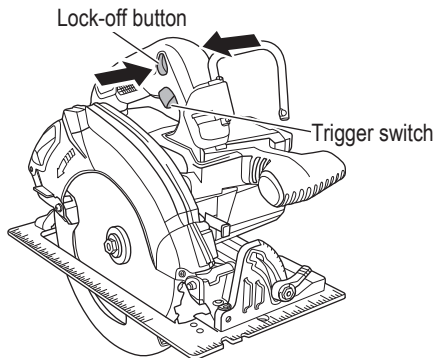

Fig. 23
5. Operation of switch (Fig. 23)